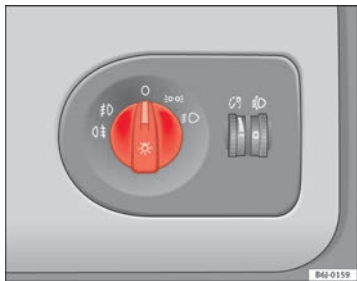

Fig. 52 Detailed view of the dash panel: lights, fog lights and rear fog light switch
- Turn the light switch \Rightarrow fig. 52 to position \Rightarrow .